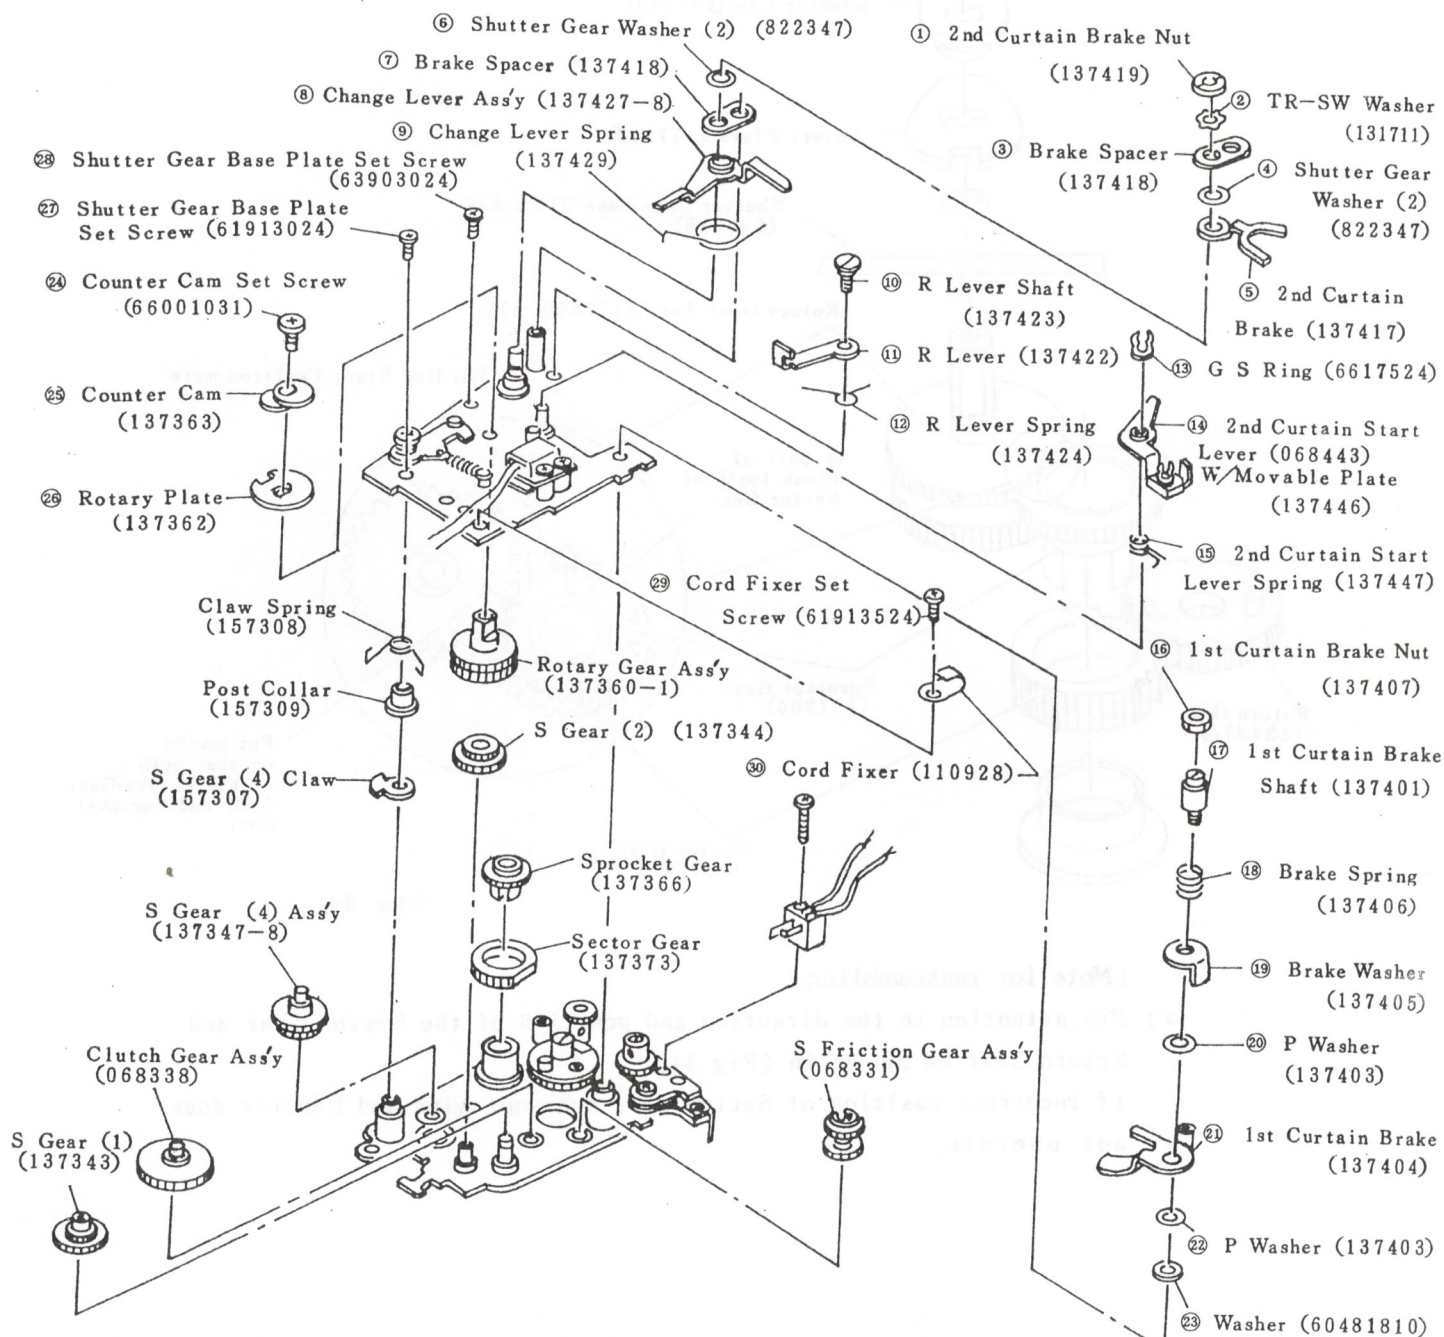

Fig 33
a) Remove the respective parts ① ~ ③① Shown in (Fig 33) in numerical order.